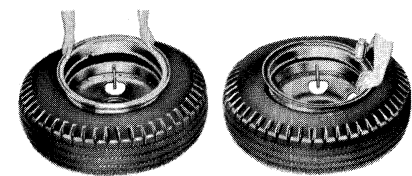

FIG. 4 Positioning and Starting Ring—2-Piece Rim
2. Press the side of the ring opposite the double embossing down into the ring well. Insert the straight end of the rim tool into the notch between and below the double embossing (Fig. 4).
2. Position the ring with the notch about 3 inches from the valve stem (Fig. 4). Hook the section opposite the notch under the gutter so that the cut-away portions of the ring retaining bead span the rim gutter (Fig. 4).